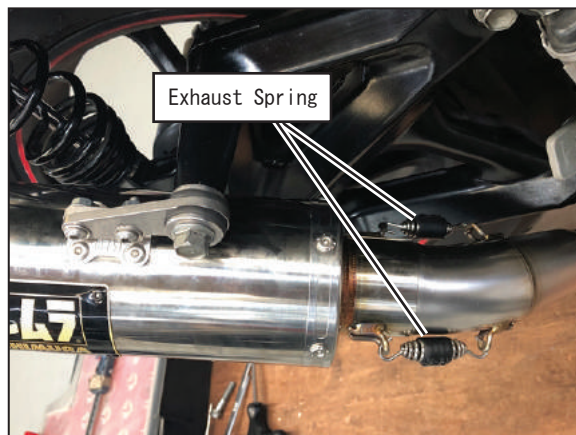

FIG. 11
- 9) Mount Silencer Assy on the Exhaust Pipe. Then, Install Exhaust Spring onto each spring hook on Exhaust Pipe and Silencer Assy (See Fig. 11).